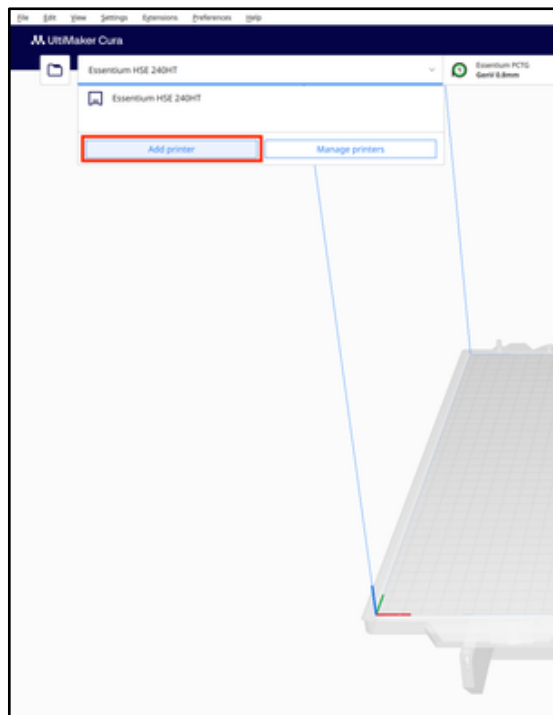

Figure 23: Adding Additional Printers
13. Figure 23 shows where additional machines can be added at the upper-left corner of the screen.